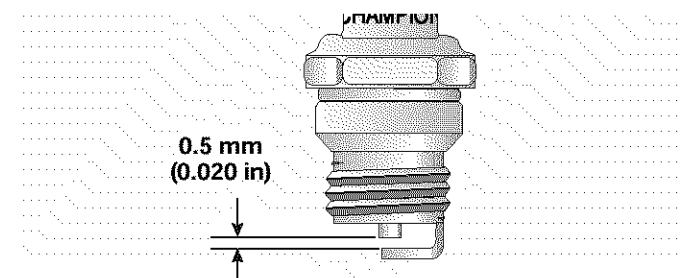

Fig. 30
3. Replace a cracked, fouled or dirty spark plug. Set the air gap at **0.5 mm (0.020 inch)** using a feeler gauge (Fig. 30).